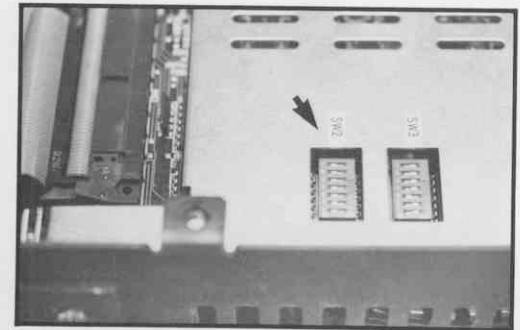

Figure 67 SW2 Switches
- 4.47 Figure 67 shows the switches at position **SW2** on the disk drive housing.